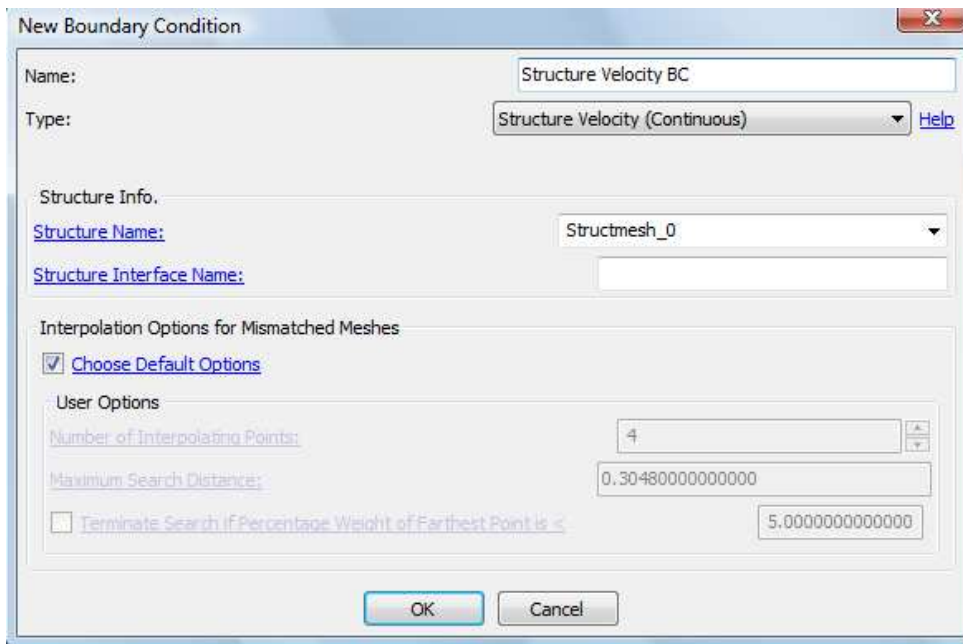

Figure 17: Edit structure velocity boundary condition window.
- Select **Structure Velocity (Continuous)** from the drop-down menu for 'Type'. The window in Figure 17 will appear.